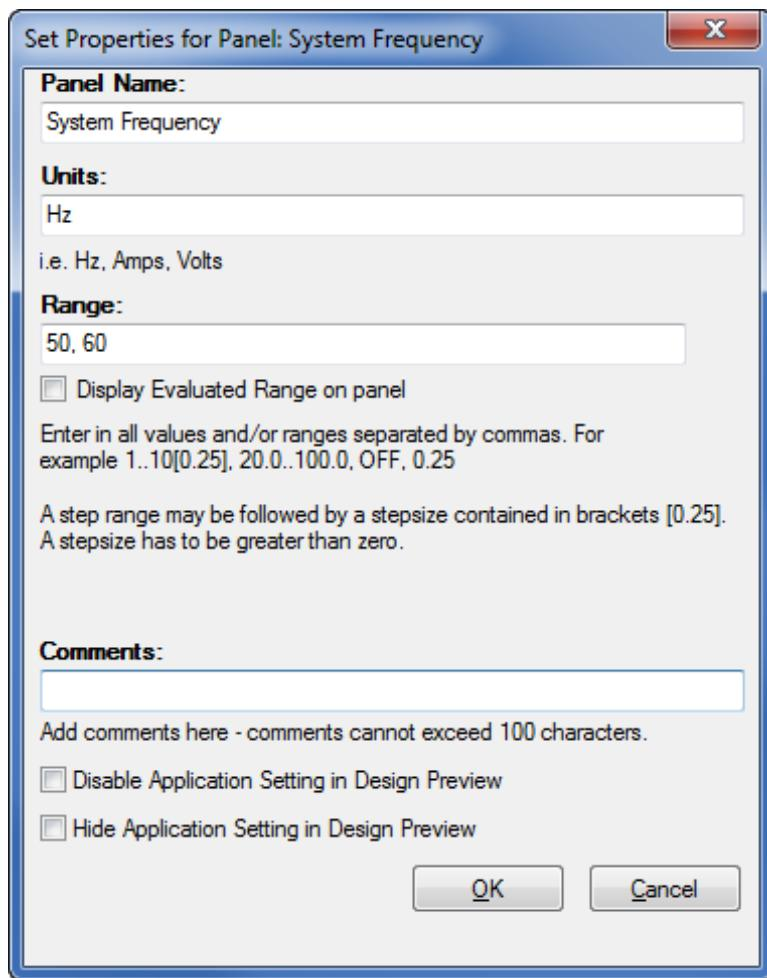
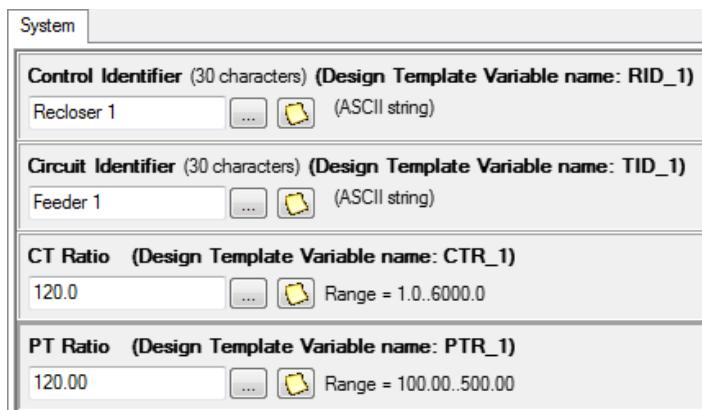

Figure 6.39 Use the Edit Properties Menu Option to Configure Your Setting Interface
Figure 6.40 Use the Design Template Preview View to Validate the Template Setting View
Step 20. Configure the properties of RID_1 according to *Figure 6.39*. When finished, click **OK**. Repeat this configuration process by using the following table. Your result should look like *Figure 6.40*.
Step 21. Enter default settings entries for all four panels. For this example, as shown in *Figure 6.40*, we use "Recloser 1," "Feeder 1," "120.0," and "120.00."